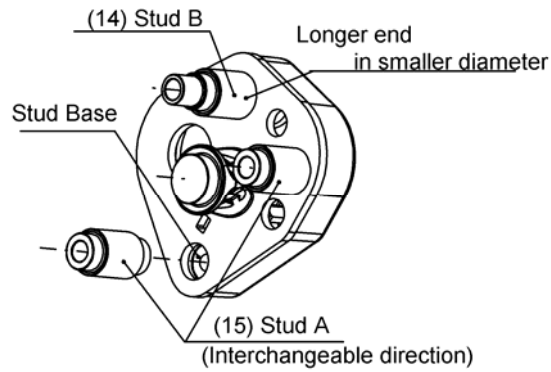

Figure 5-4 Stud Attachment
- 1) Insert (15, 14) Studs A and B into their respective bases of (12) Gear Case as shown in Figure 5-4.